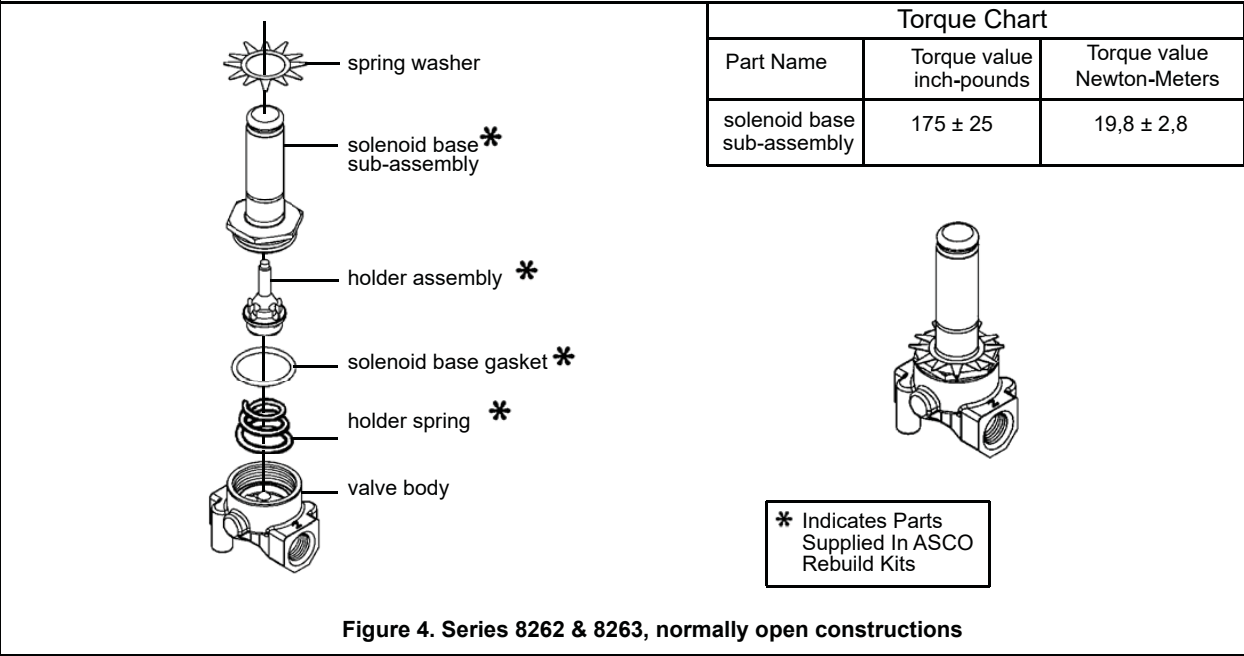

Figure 4. Series 8262 & 8263, normally open constructions
4. For normally open construction (Figure 4) remove spring and disc holder assembly.
3. For normally open construction (Figure 4), install disc holder assembly and disc holder spring.
- **Open-Frame Construction:** The green solenoid may be supplied with 1/4” spade, screw or DIN terminals. (Refer to Figure 4)